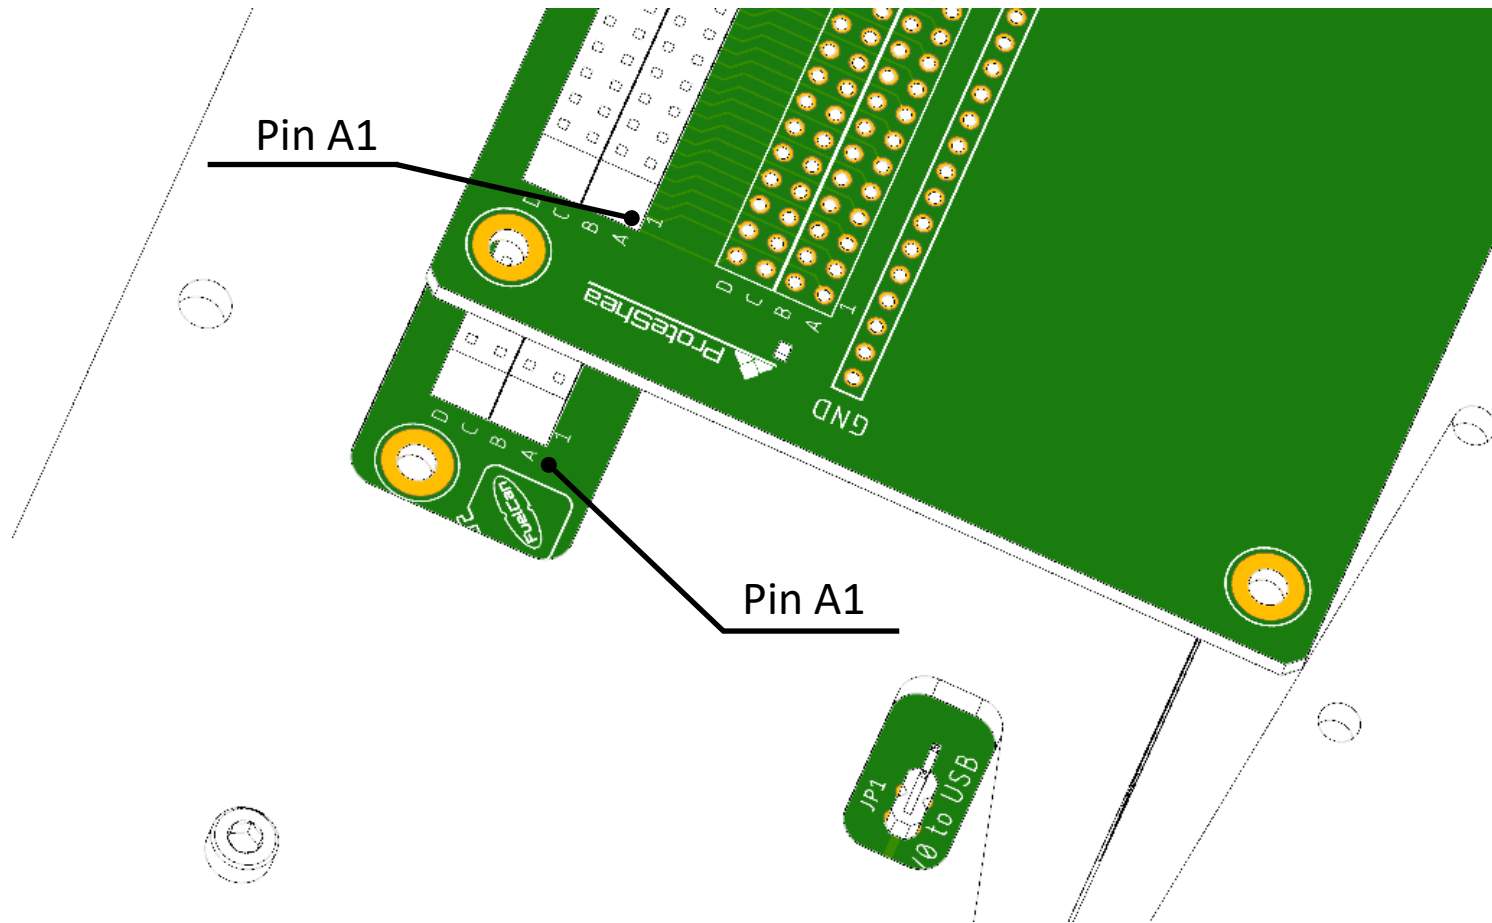

Figure 21. Proper Alignment of Canister to Main Interface Board.
4. Use Fig. 21 below to correctly orientate the Canister with the Fuelcan Main Interface board or another Canister by aligning pin A1 on both boards.